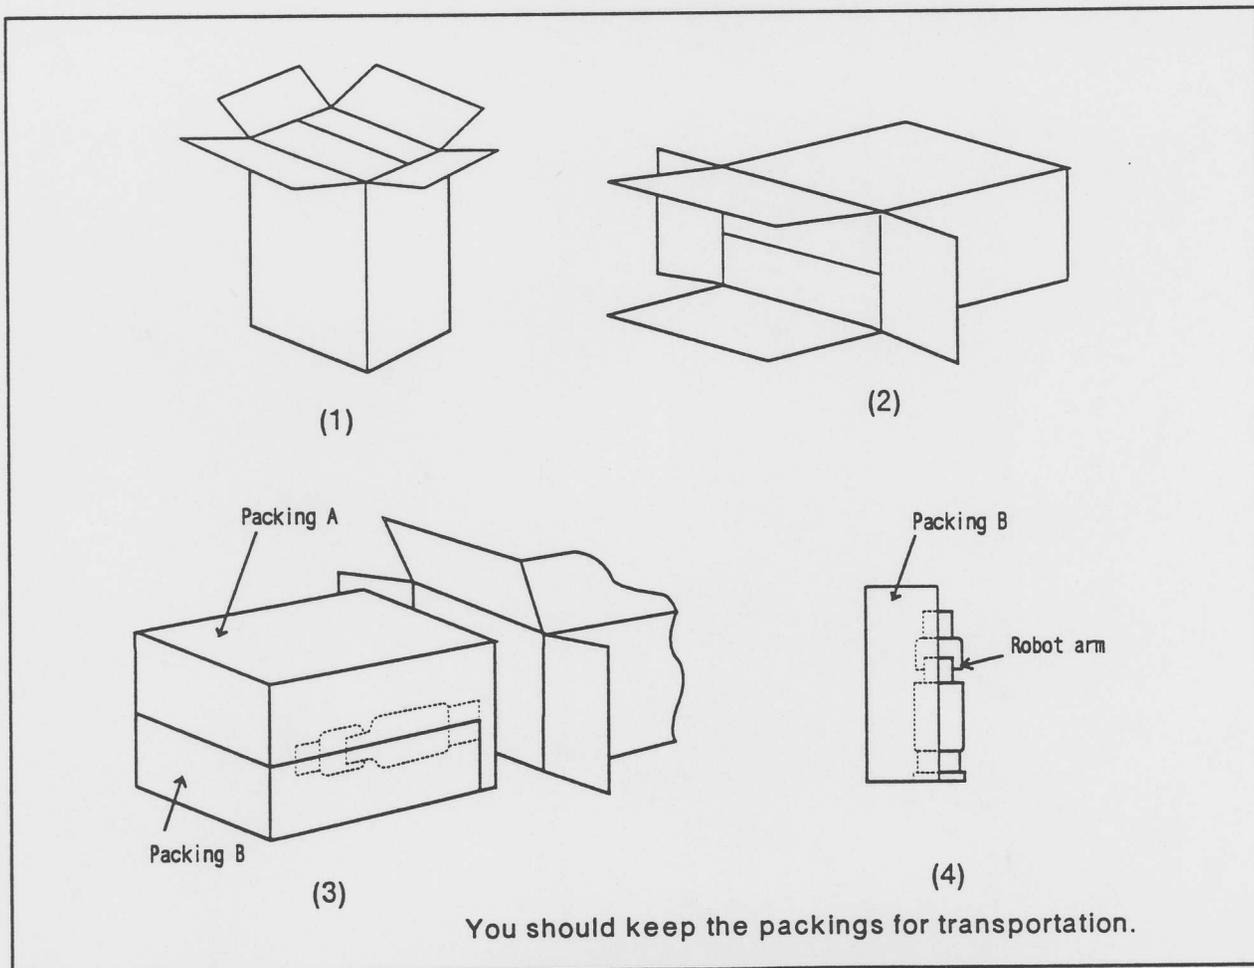
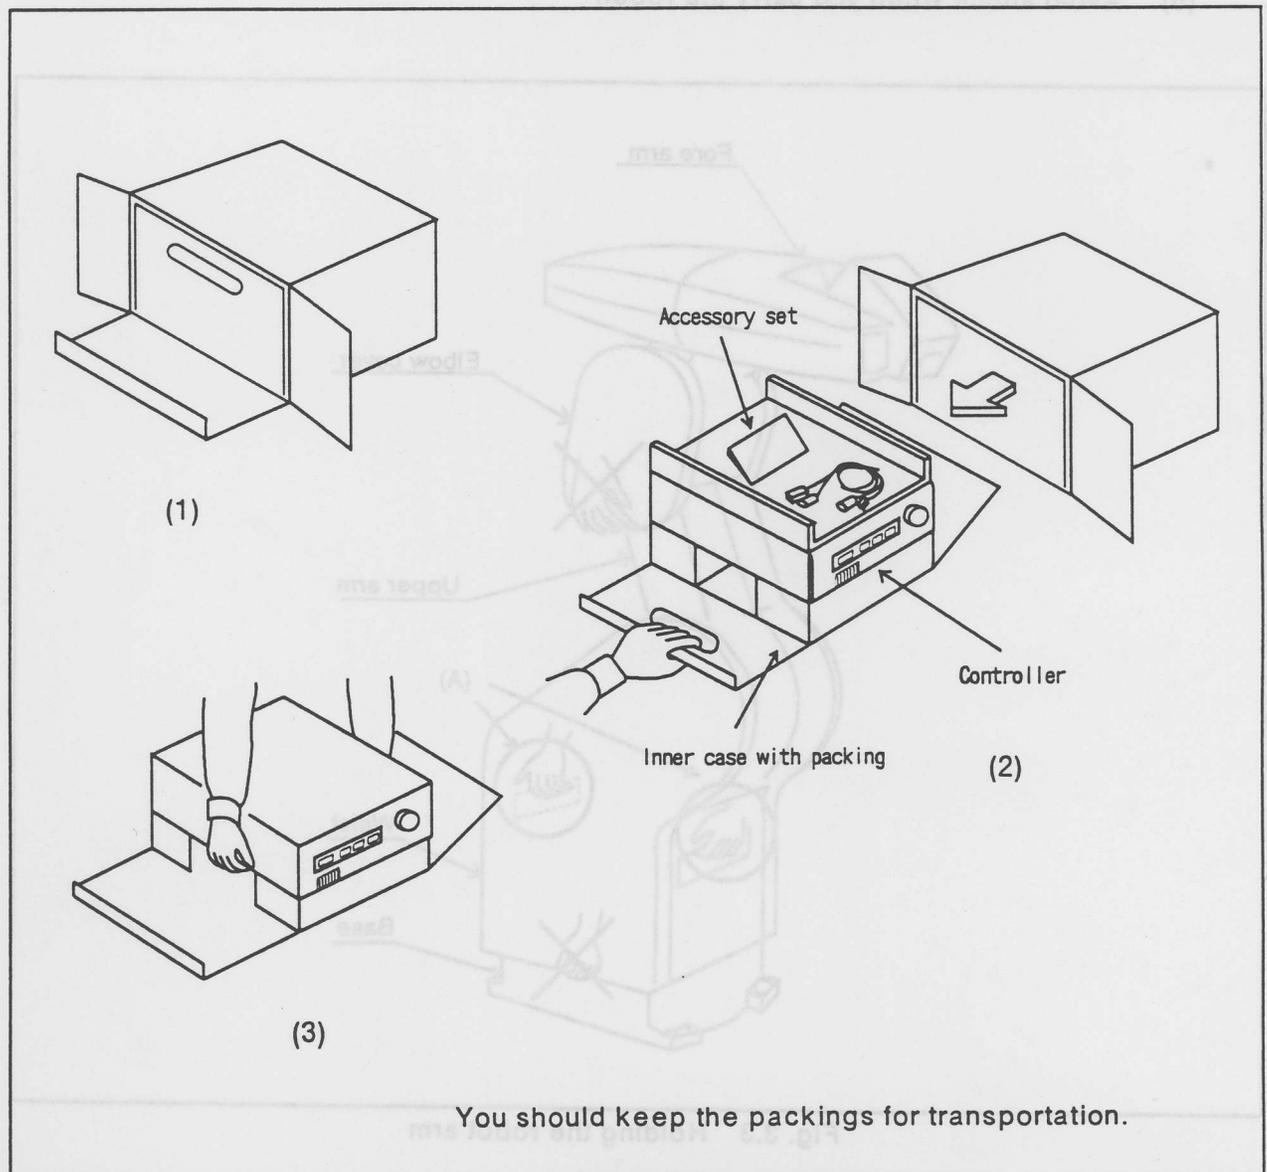

Fig. 3.1 Unpacking the robot arm
Fig. 3.2 Unpacking the controller
The cardboard box contains the controller. Figure 3.2 shows how to unpack the controller. This manual /3.3: controller explains how to handle the controller.
- (1) Open the cardboard box as figure 3.2(1).
- (2) Draw the controller with inner packing as figure 3.1 (2).
- (3) Put away an accessory.
- (4) Lift up the controller to put away the packing as figure 3.2 (3).